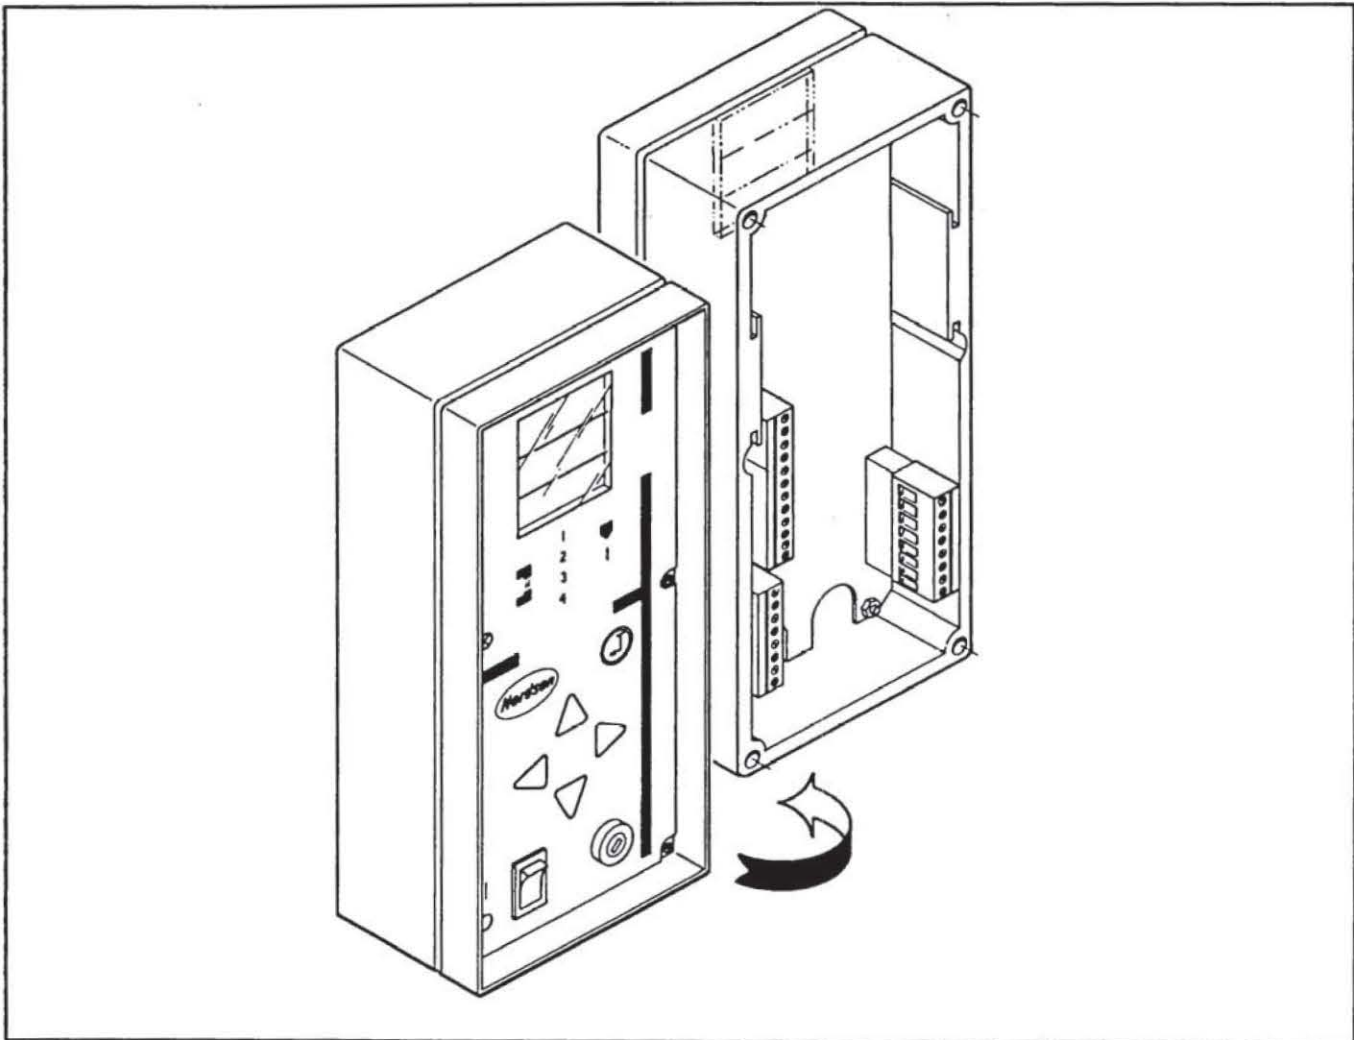

Figure 3.6 - Rotating the front assembly
c. Rotate the front assembly 180° (Figure 3.6).
- c. Rotate the front assembly 180° (Figure 3.6).